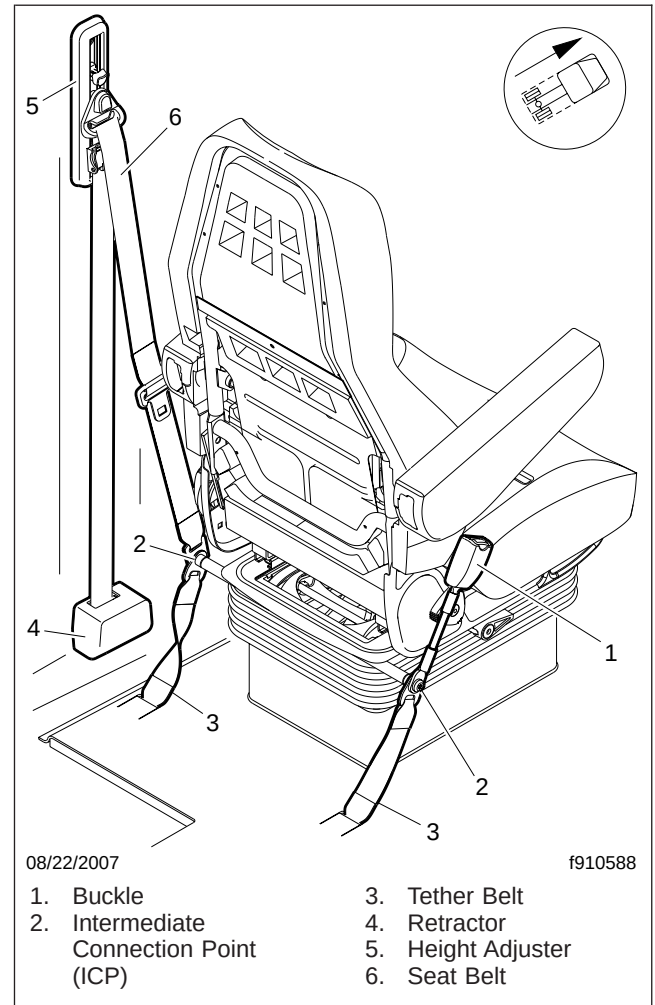

Fig. 1, Seat Belt Installation, Air Suspension Seats
2. Disconnect the seat and tether belts from the seat by removing the Torx® capscrew from each end of the intermediate-connection-point (ICP) bar; see Fig. 1. Remove and discard the buckle side of the seat belt.